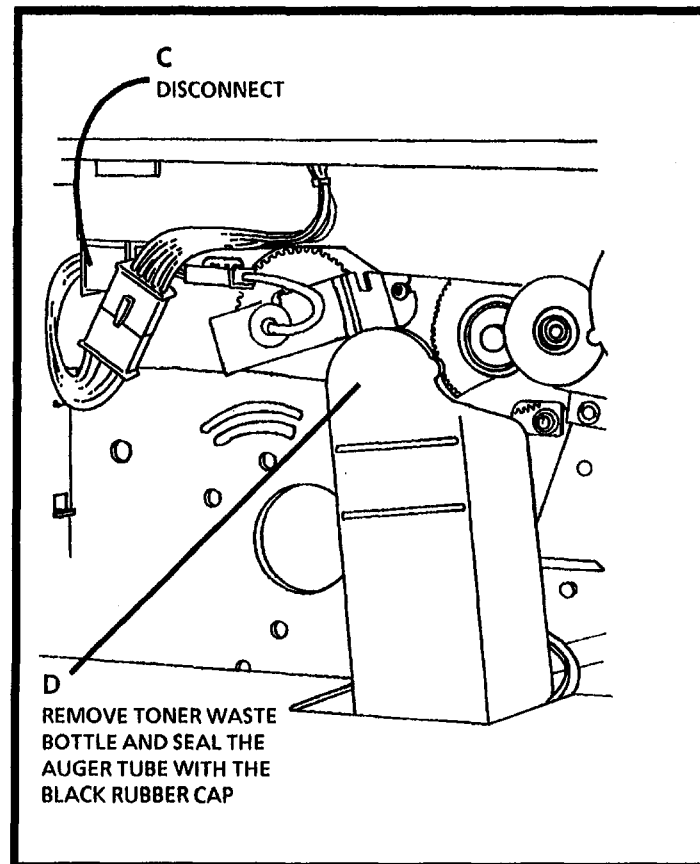

Figure 4. Preparing to Remove the Xerographic Module
6. (Figure 4): Prepare to remove the Xerographic Module.